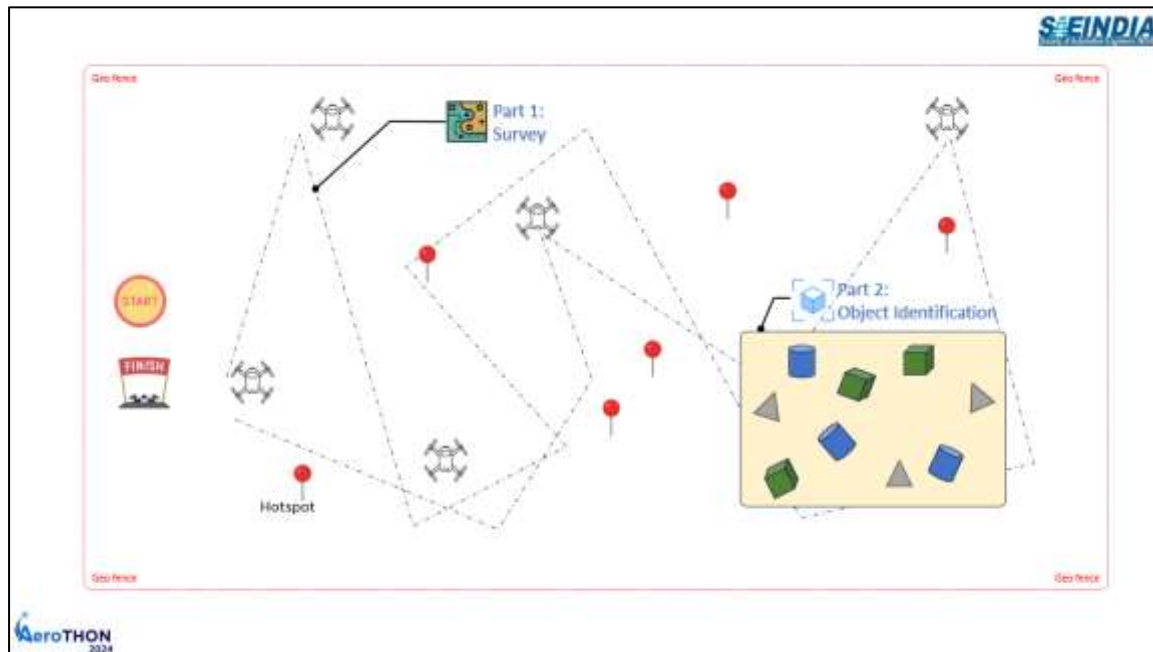

Figure 3: Flight Mission 2 – Autonomous - Mission Profile
- ❖ Scoring will be provided for a successful flight mission. A flight is considered successful only if the UAV takes off, complete survey, identify hotspots, classify objects based on their shapes, count the number of objects, return to the take-off point, and land safely on the ground. Refer Section 5 for scoring information. The flight course for autonomous operation is shown in Figure 3.